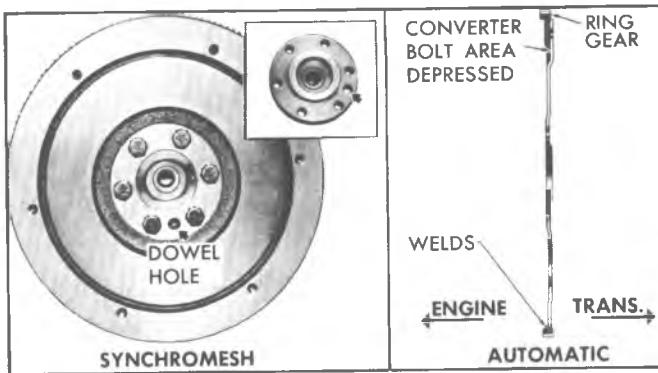

Fig. 30L—Flywheel Installation (Typical)
- Install flywheel on crankshaft and position to align dowel hole of crankshaft flange and flywheel (fig. 30L).